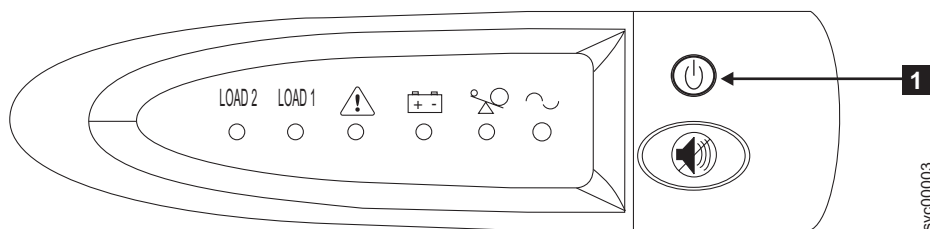

Figure 307. The 2145 UPS-1U front-panel assembly
1. At the front of the 2145 UPS-1U, press and hold the on/off button (**1** in Figure 307) until the power light is extinguished (approximately five seconds). On some versions of the 2145 UPS-1U, you need a pointed device, such as a screwdriver, to press the on/off button. The 2145 UPS-1U enters standby mode.